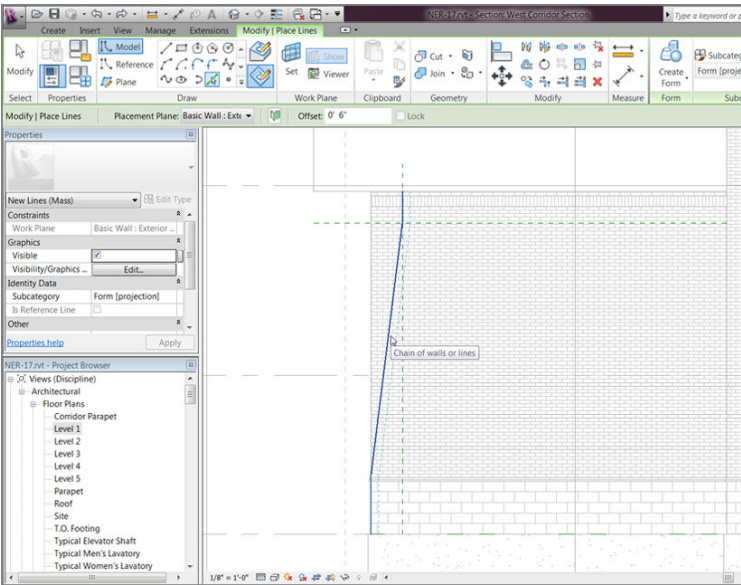

FIGURE 16.44: Creating the thickness
12. Offset the three lines to the right, as shown in Figure 16.44.